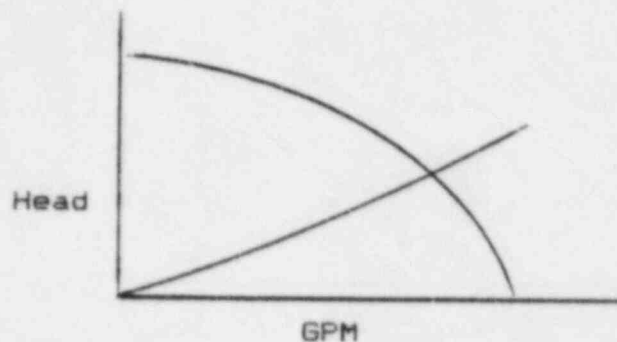

Figure 1.1. Pump Characteristic Curve
- 1.5 a. For the centrifugal pump characteristic curve shown in Figure 1.1, show how the pump operating curve will change, and explain why the change occurs, if a valve in the system is throttled one-half closed, such as might be done in the Feedwater Control System. Be sure to label all points and lines. (1.5)